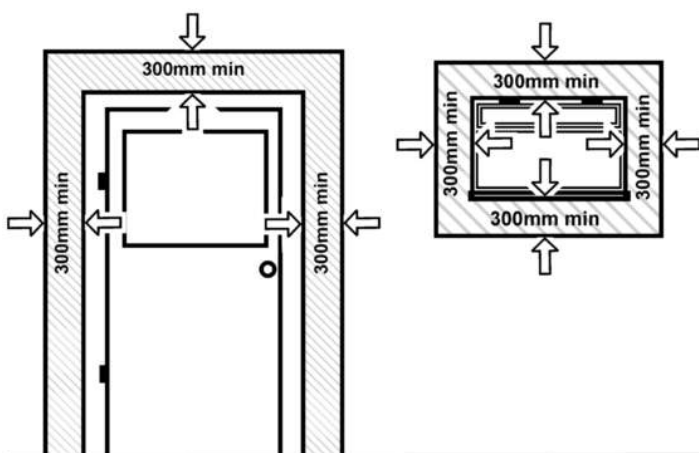

Fig. 8
*In addition, the terminal should not be nearer than 300mm to an opening in the building fabric formed for the purpose of accommodating a built-in element such as a window frame or door frame (Fig. 8).